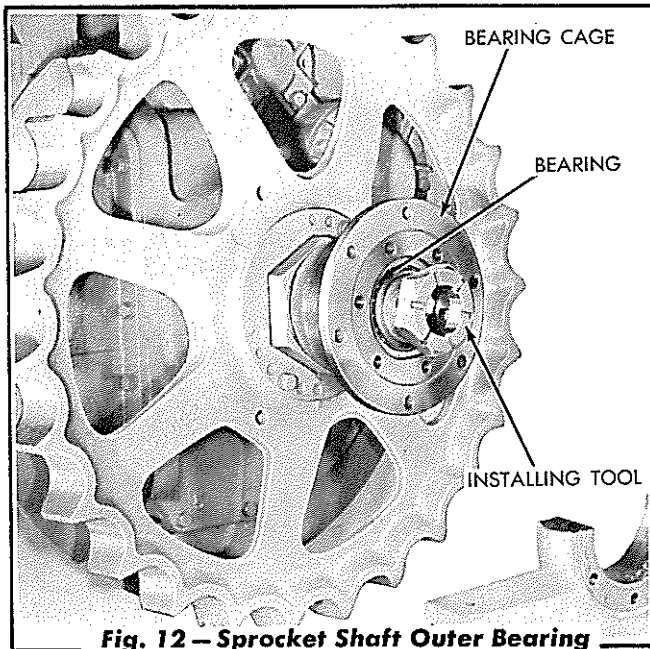

Fig. 12 – Sprocket Shaft Outer Bearing Installation
1. With the seal assembly and the outer bearing in place in the cage, install the cage on the sprocket shaft, using a tool similar to the one shown in Fig. 12. Press the cage and bearing assembly on the shaft to a position allowing .050" to .060" clearance between the sealing surfaces of the two (2) outer seal rings.
The tool mentioned above and shown in Fig. 12 is made of two (2) sprocket shaft outer bearing retaining nuts. Place one nut in a lathe and machine the threads out of the nut. Then place the two (2) nuts together (so
the nut with threads is to the inside) and weld them together as shown in Fig. 12. Place the welded nut assembly in a lathe and machine the outer diameter of the inner nut (the nut with the threads) down to 3.375" and back (from the inner face) for a distance of 1-5/16". This will form a collar to push the bearing and cage assembly into position on the sprocket shaft. It is necessary that a tool of this type be used when installing the outer sprocket shaft bearing, as the shock of driving the bearing into position may loosen the "Neoprene" cement used to cement the seal boot to the bearing cage.